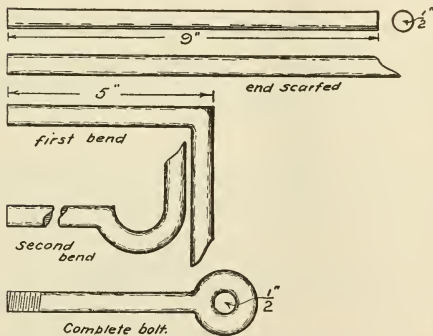

FIG. 211.—BOLT FOR PLANK DRAG.
1. For the eye bolt in the plank drag you will need 9'' of $\frac{1}{2}$ '' round iron. (Fig. 211.)